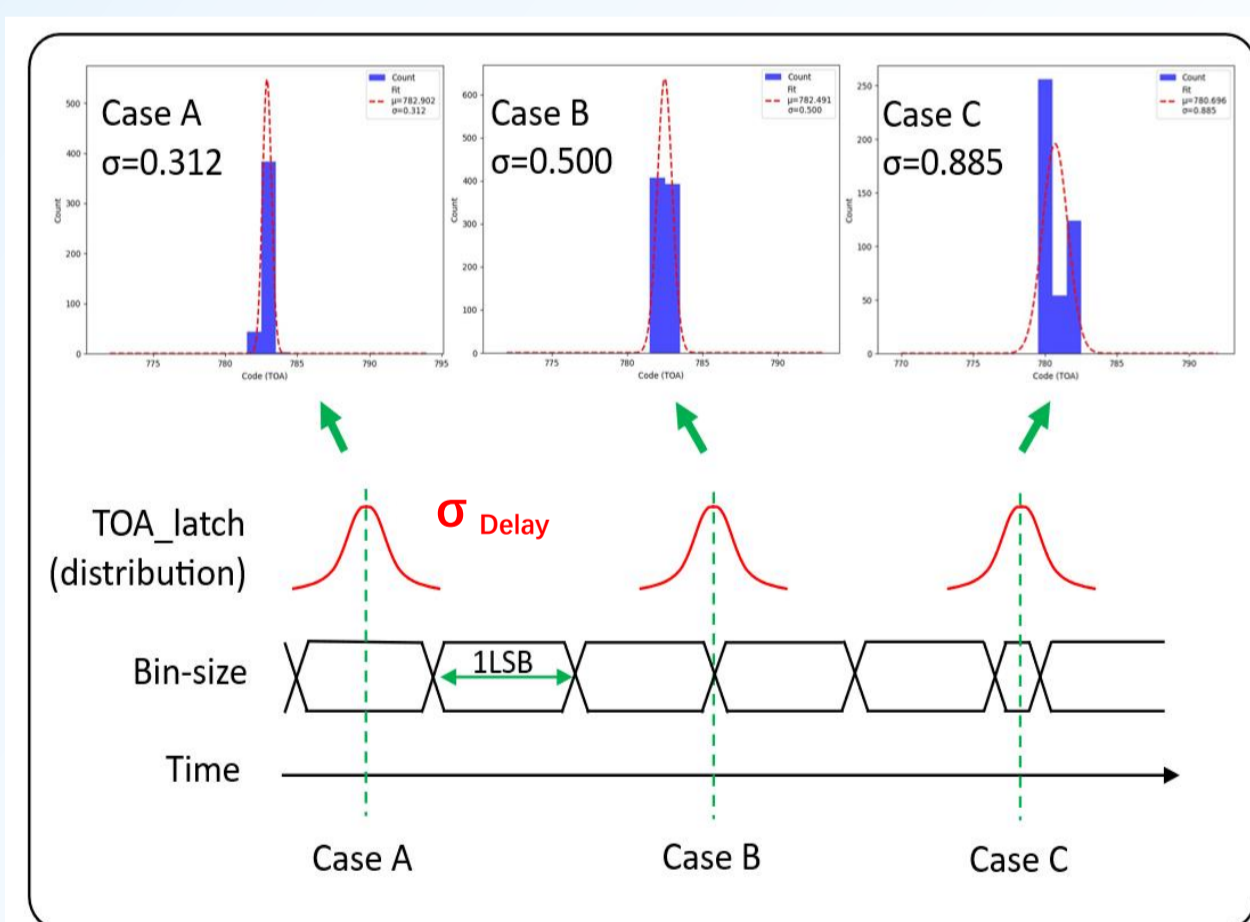

Fig.4. Three distribution patterns observed in LATIC0 testing
- ❖ During the test of LATIC0, multiple TOA measurements of a pulse signal resulted in three types of distributions, as shown in Fig. 4.